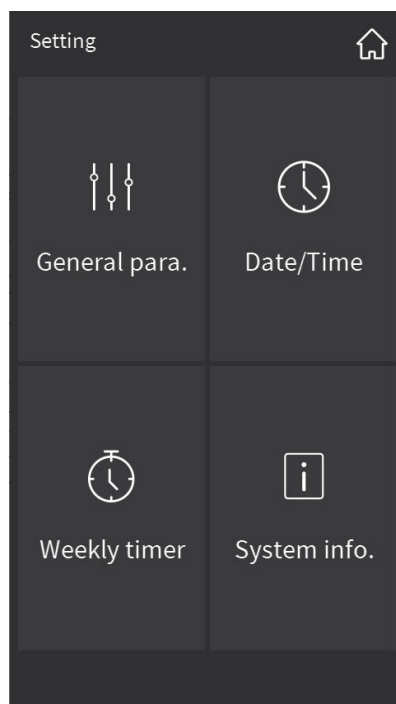

Fig.2.11.1
Click the setting icon in the upper-right corner of the main page to enter the setting page, as shown in Fig.2.11.1.
⑮ Sliding the number to choose the current date and time;
Click "Date/Time" in Fig.2.11.1 to enter the date/time setting interface as shown in Fig.2.11.7. In this interface, slide a number to select the current date and time. After the completion of the setting, touch the upper-left corner icon② to return to the Setting page.
Click "System Info." in Fig.2.11.1 to enter the system information display interface as shown in Fig.2.11.8. You can view the system information of the device, including name code, internal code, LCD screen, touch screen, interface language, system platform, system version , KNX version and program version.
Click "Weekly Timer" in Fig.2.11.1 to enter the weekly timer display interface as shown in Fig.2.11.9. The weekly timer needs to be enabled through parameter configuration. Weekly timer before being configured is not operable. In the case of configuration, click "weekly timer" in Fig.2.11.1 to enter the weekly timer setting interface as shown in Fig.2.11.9.